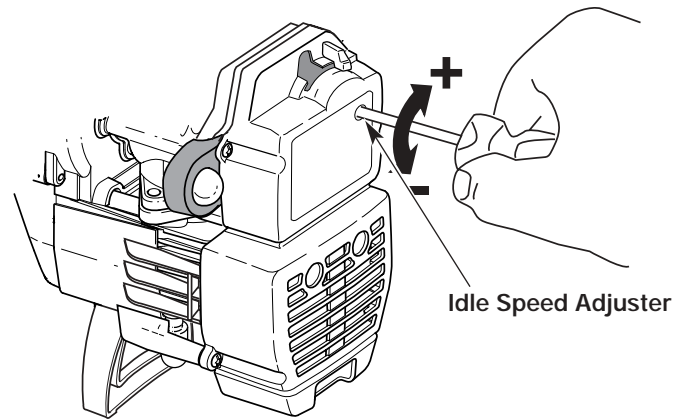

Figure 29
The idle speed of the engine is adjustable through the air filter/muffler cover. See Figure 29.
2. Release the throttle control and let the engine idle. If the engine stops, insert a small phillips or flat blade screwdriver into the hole in the muffler cover. See Figure 29. Turn the idle speed screw **clockwise** 1/8 of a turn at a time (as needed) until the engine idles smoothly.